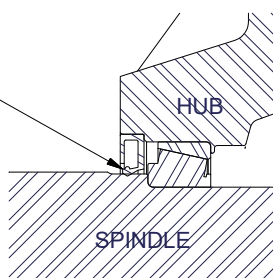

FIG. 4-70
7. Remove seal and inspect bearings, spindle washer, castle nut and cotter pin. Replace if necessary. Pack both bearings with approved grease and reinstall inner bearing. Install new seal in hub with garter spring facing the outside of hub by tapping on flat plate that completely covers seal while driving it square to hub. (FIG. 4-70) Install until flush with back face of hub. Using a safe lifting device rated for 200 lbs., install hub assembly onto spindle. Install outer bearing, spindle washer and castle nut.